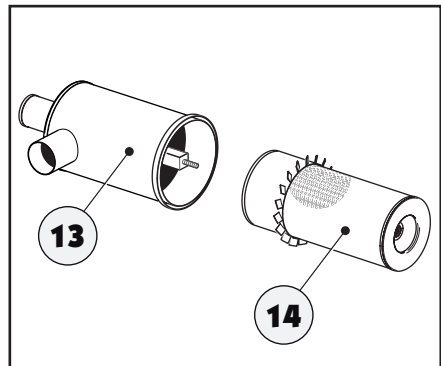

Fig. 6.14
- open the filter cover (10) by unscrewing the knob (11);
- undo the knob (12) securing the filter cartridge (14), and remove the cartridge from the housing (Fig. 6.14);
- use a damp cloth to thoroughly clean all the internal surfaces of the container (13) and cover (10) before reassembly;